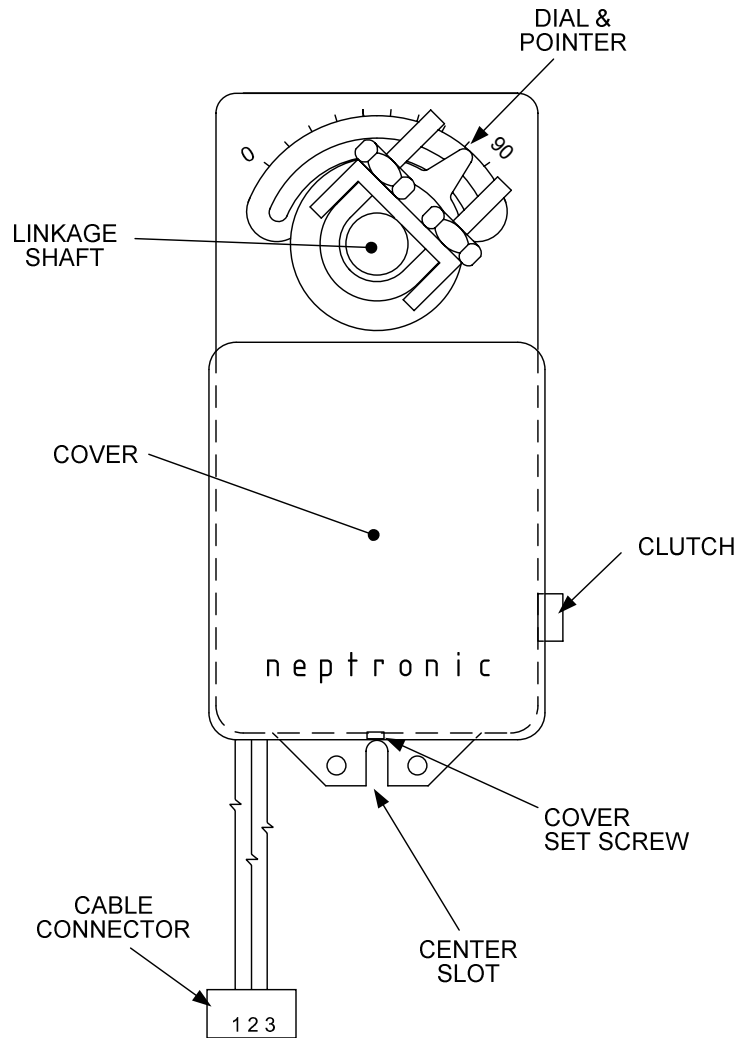

Figure 4-4. Actuator Assembly, Part No. 69009
1. Depress and hold the Clutch Button (Figure 4-4) and rotate the pointer to approximately 80° on the dial. Release the Clutch Button when properly positioned.
2. Slide the Actuator onto the Linkage Assembly Shaft (Figures 4-2 & 4-4). Ensure that the pin on the Linkage Assembly is inserted in the center slot on the bottom of the Actuator (Figure 4-4).